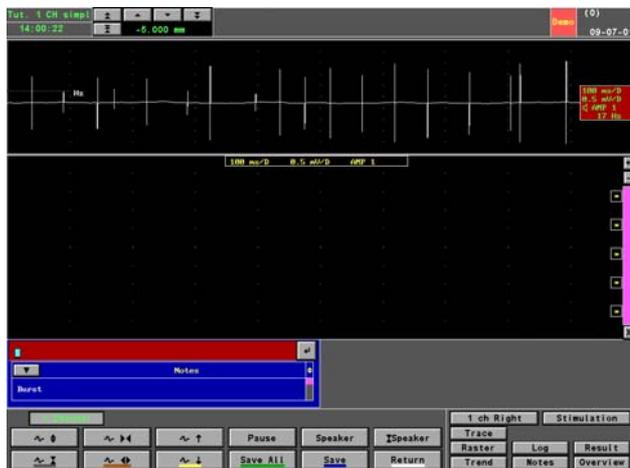

Figure 46 Information Box and Changed Function Buttons
- Then you select trace 1 by clicking on the information box situated to the right of the trace in the Trace Window, see Figure 46 below. This may be performed by using the dedicated keyboard, too if you are not in demo mode. Please see the section on Information Box Values page 12 for further information on the dedicated keyboard.
A number of additional controls are provided in a small toolbar  in the upper-left of the screen, see Figure 46 above. These controls make it possible to decrease, or increase the distance to the target by mm macro steps and by mm micro steps. For further information on Small Toolbar Controls, please see page 24 in the section on the Electrode-positioning System.
- Click  and now you can move the trigger line in up- and downward directions see Figure 46 above.
Altering the sweep speed via the function buttons, see Figure 46: